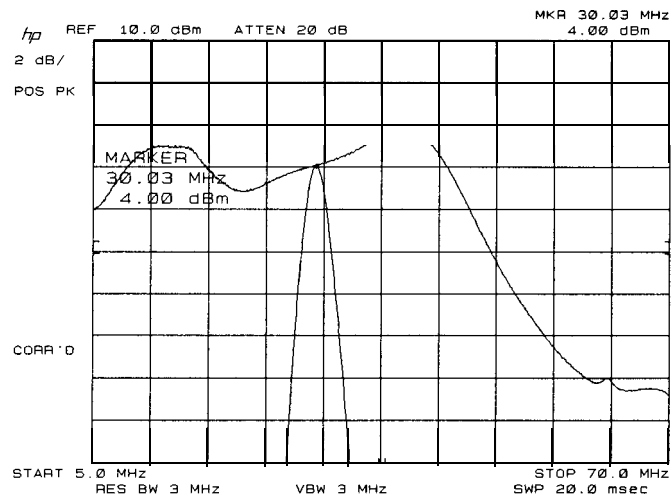

Figure 3-76. Tuning the IF OUT Fundamental
50. On the synthesized sweeper, key in **(SHIFT) (CW) (↑) (↑)** to set the CW RES to 0.001 MHz. Then, use the **ENTRY** knob to gradually tune the synthesized sweeper up and down from the frequency set in step 41, tuning the IF OUT fundamental (displayed on the second spectrum analyzer) from 5 MHz to 70 MHz as shown in Figure 3-76.